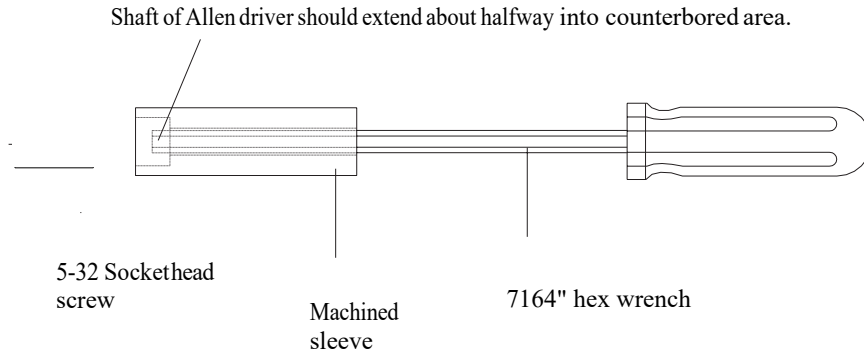

Figure 5-2. Detail of the sleeve on the Allen driver
Step 2: Now you are ready to remove the screws that secure the crucible to the crucible mounting flange. This procedure involves using the special Allen tool provided with the source, which consists of a standard 7/64" Allen driver with a machined sleeve fitted over the shaft (see Figures 5-2 and 5-3). If you are not experienced with this tool, see the detailed instructions in steps 3 and 4 under the heading "Removing the Crucible" in section 3.5. If you are proficient in the use of this tool, proceed directly to step 3 of this procedure.